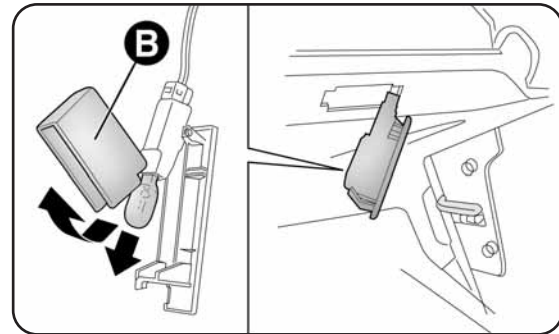

fig. 33
- open protection B-fig. 33 and replace the press-fitted bulb;